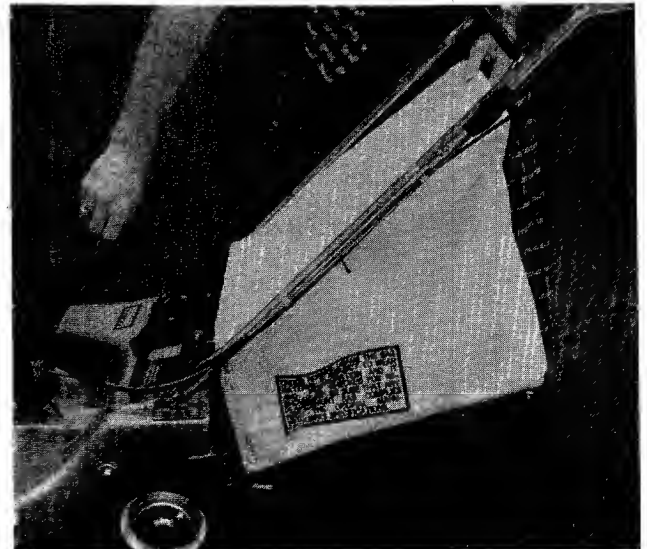

FIGURE 8
1. Attach the grass catcher frame to the front of the adapter as shown in figure 8.